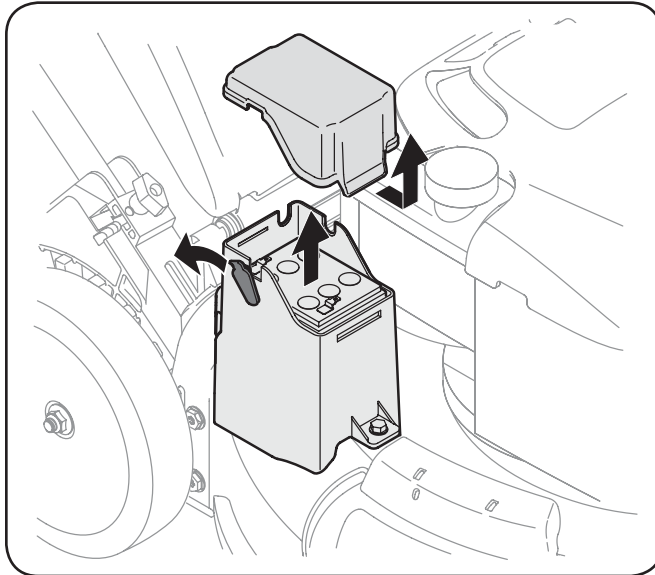

Figure 7-2
2. Remove positive and negative leads from battery, and pull up on battery to remove. See Fig. 7-2.